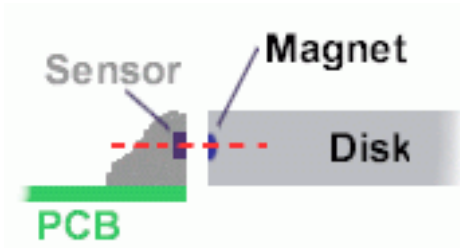

Figure 2 Ensure correct alignment of magnet disk and sensor.
- Take care that the magnets in the disk are approximately in the same height as the sensor, see figure 2 on the next page.